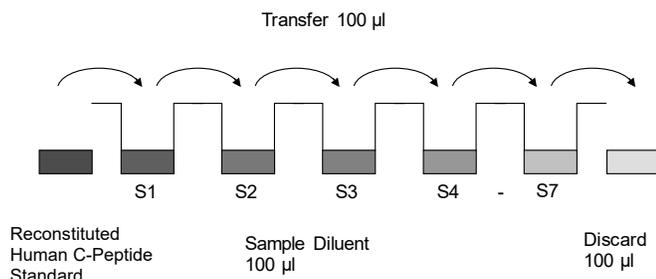

Figure 8 Dilute standards - microwell plate
- c. Mix the contents of wells A1 and A2 by repeated aspiration and ejection (concentration of standard 1, S1 = 1500 pg/mL), and transfer 100 µL to wells B1 and B2, respectively (see Figure 8).